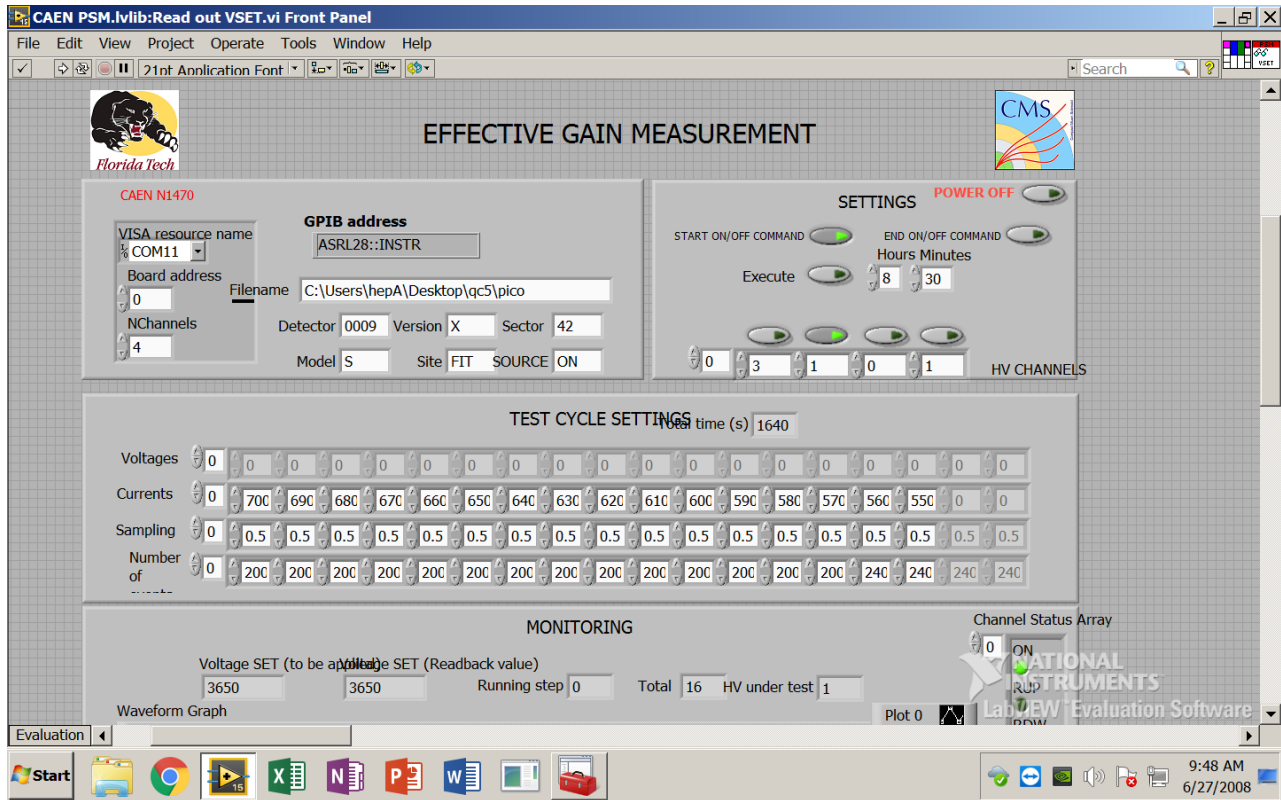

Figure 28: The control screen in LabView.
THE LABVIEW 2015 SOFTWARE is installed on the TOP QUARK machine, so this part of QC5 is performed exclusively with TOP QUARK. LabView takes current measurements at specific voltages obtained from the rate measurement. Use this data to input the voltages for each specific monitored current you would like to obtain a current measurement at (in the test cycles window on the LabView control panel; see fig. 28).
6. Now, open LabView 2015 by clicking on the file QC5EFFECTIVE on the desktop. After entering the software, the screen in fig. 28